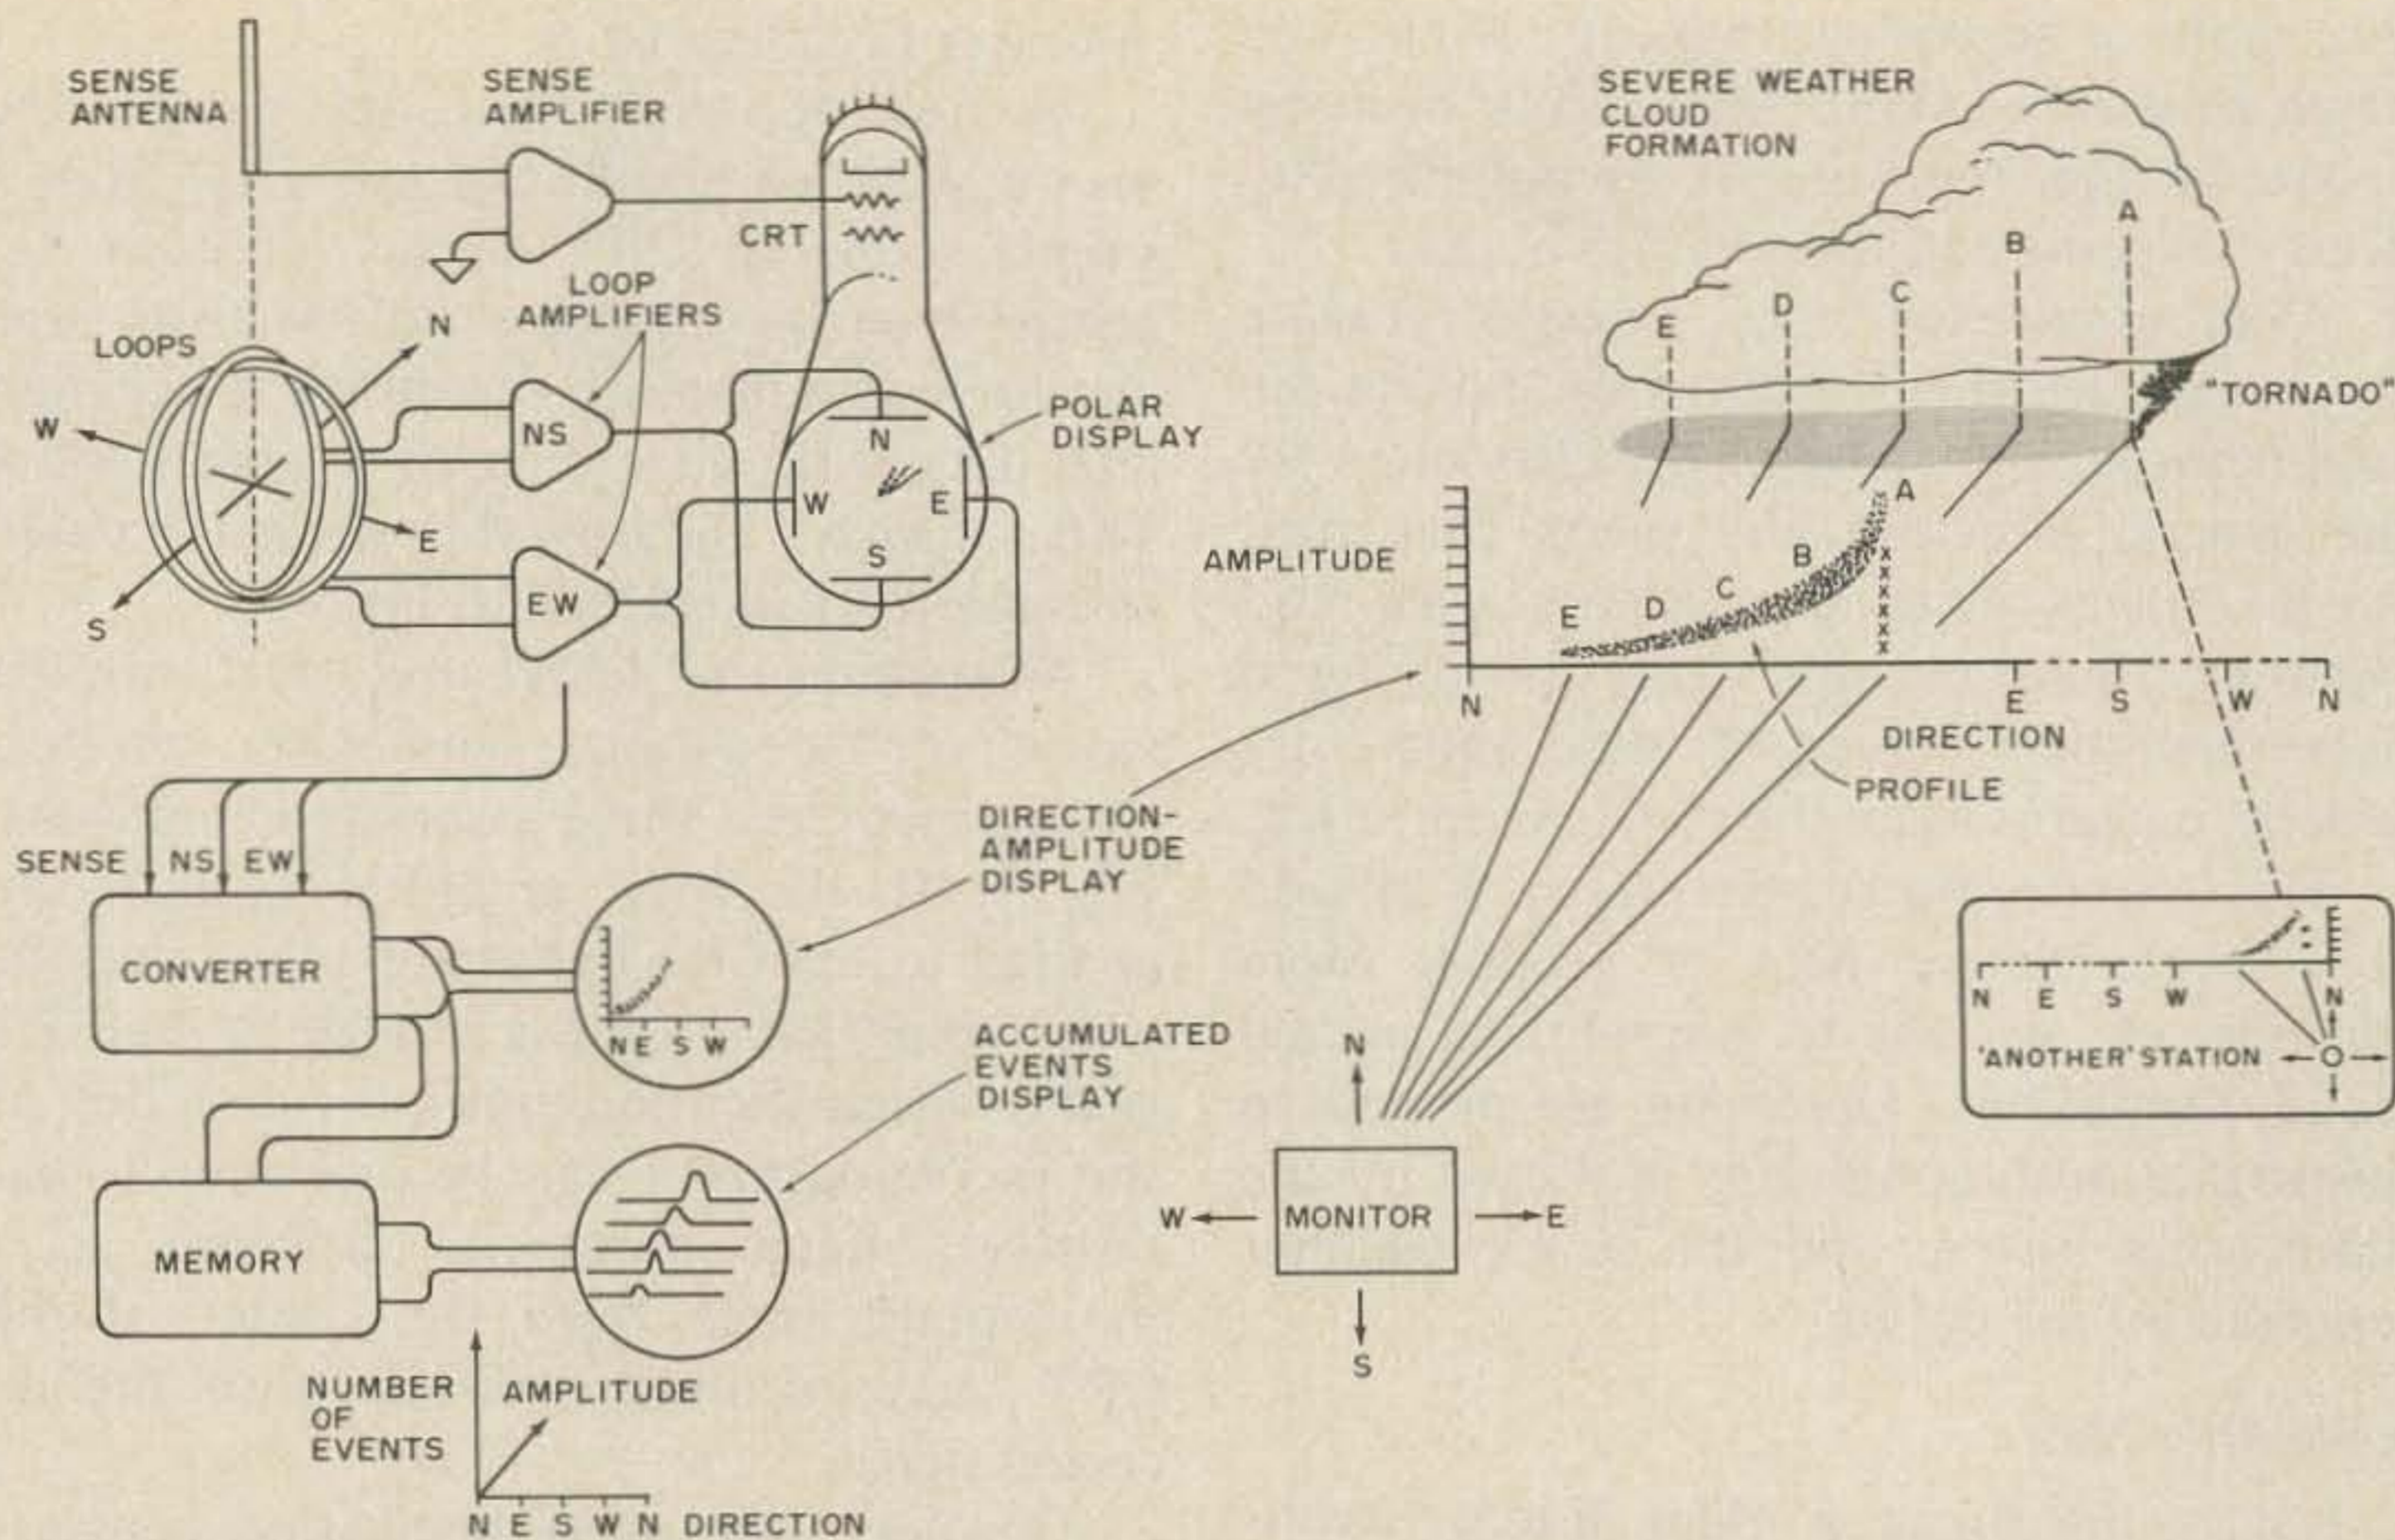

Fig. 1. Severe weather warning system.
representing the specific amplitude and direction of that event. When the events were accumulated (time exposure with a camera) a profile appeared as illustrated in Fig. 1. As the cloud formation progressed, four identifiable patterns became apparent from watching the display. During the initial stage, there were random events which had a definite amplitude-direction relationship (fell within the profile). This stage generally occurred for many hours. At the leading edge (A), there were no little signals.
Monitoring equipment to detect the severe weather conditions can vary from a simple scope or CRT display of each discharge event as it happens, to computer type circuitry with memory capability to accumulate data from all events of a time period. Three displays and how they present a cloud formation are illustrated in Fig. 1.
All systems that I have used start with the same crossed-loop sense-wire antenna arrangement and three associated amplifiers, Fig. 1. If the loop amplifier outputs are applied to the CRT deflection plates and the sense amplifier output is applied to the CRT grid or intensification input, the direction of the incoming event can be displayed (polar display). Each event is displayed as a momentary trace from the center of the CRT outward in the direction of the received signal.
event is "observed." The accumulation display, Fig. 1, provides a readout with a three dimensional effect. This accumulation presents trends and concentrations that are not noticeable during realtime observation. Low activity fronts that produce only a few events per minute in the early stages are easily detected. The accumulation also improves the directional accuracy since the average of many events can be measured. The best monitoring station appears to be a combination of the last two descriptions with the amplitude-direction display to detect the domino sequences and the accumulation circuitry to detect low activity and provide directional accuracy.
Obviously, the loops should be aligned with the cardinal compass points as accurately as possible. Since it is difficult to construct crossed loops as illustrated in Fig. 1, the loops can be mounted several diameters apart. Note that the maximum